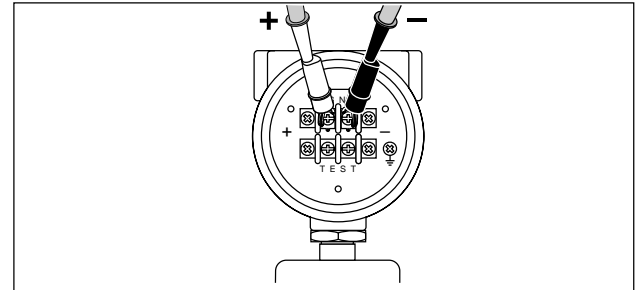

Figure 7. Sourcing Loop Voltage
2. With the transmitter disconnected from normal loop power, connect the Calibrator mA (+) and COM (-) test leads in series with the instrument current loop as shown in Figure 7. “Loop” disappears from the display once the transmitter starts drawing current.